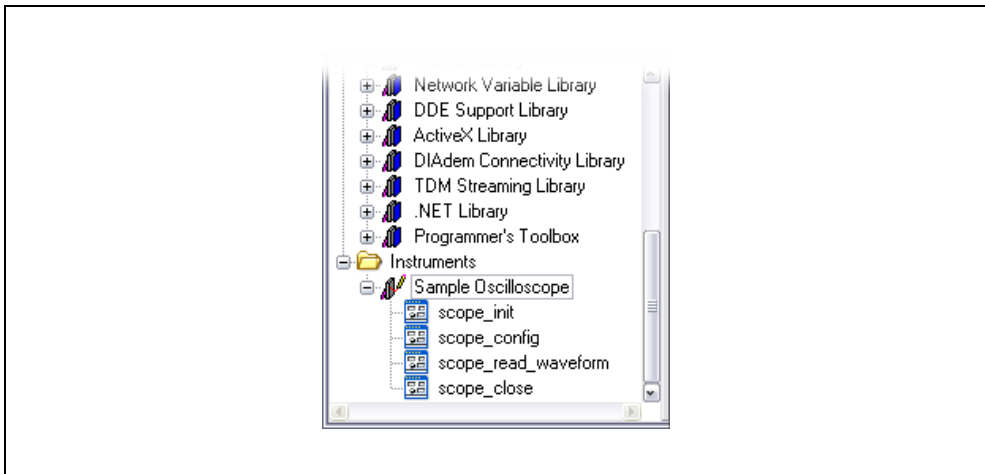

Figure 3-3. Sample Oscilloscope Instrument Driver
1. Expand **Instruments»Sample Oscilloscope** in the Library Tree. The sample oscilloscope driver contains four functions for communicating with a scope, as shown in Figure 3-3.